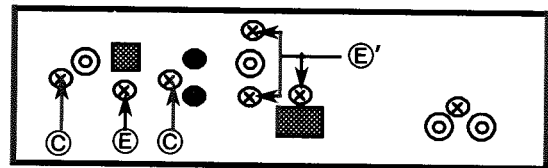

FIG.5 Rear side
2. Remove a screw (E) and 2 screws (C) holding the PCB(ENN-477-4). Remove the PCB(ENN-425-4). Remove 3 screws (E)' holding the power switch and PCB(ENN-477-1).(FIG.5)
3. Remove 4 screws (E) holding the PCB(ENN-477-1). Remove 4 screws (G) holding the power trans.